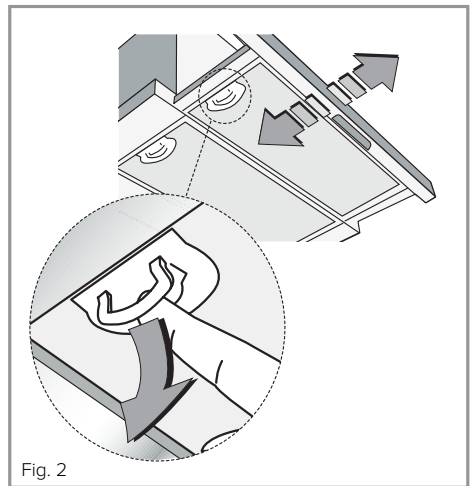

Fig. 2
1. Open the extractor fully as shown in fig 2.
2. Pull open the handle on the grease filter as shown in fig. 2